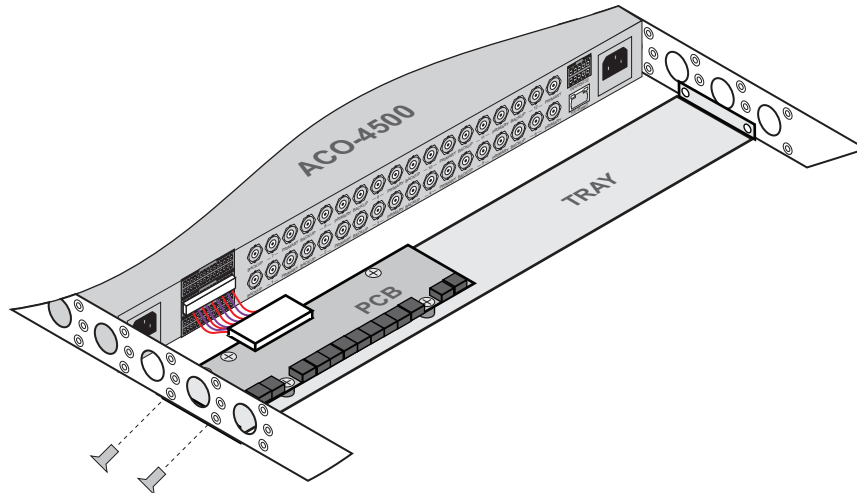

Figure 8 Connecting the Breakout PCB to the ACO-4500 Rear Panel
2. Connect the other end of the same Interface Cable to the middle 30-pin Connector on the ACO-4500 rear panel. Refer to **Figure 8**.